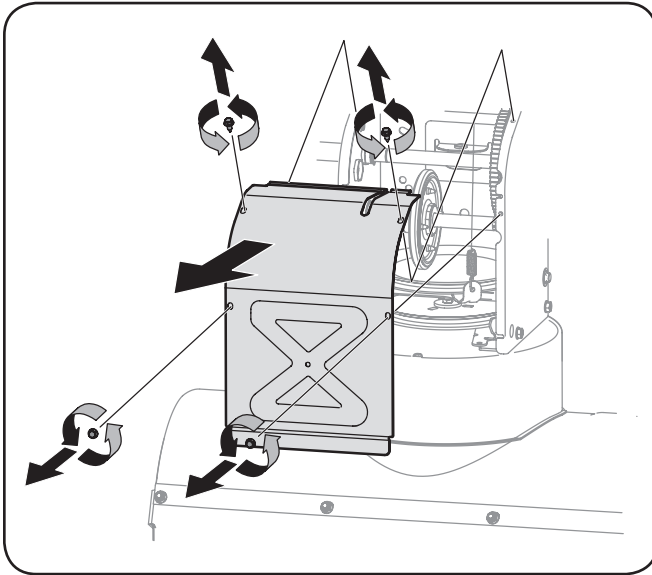

Figure 7-5
7. Remove the frame cover from the underside of the snow thrower by removing the self-tapping screws which secure it. See Figure 7-5.